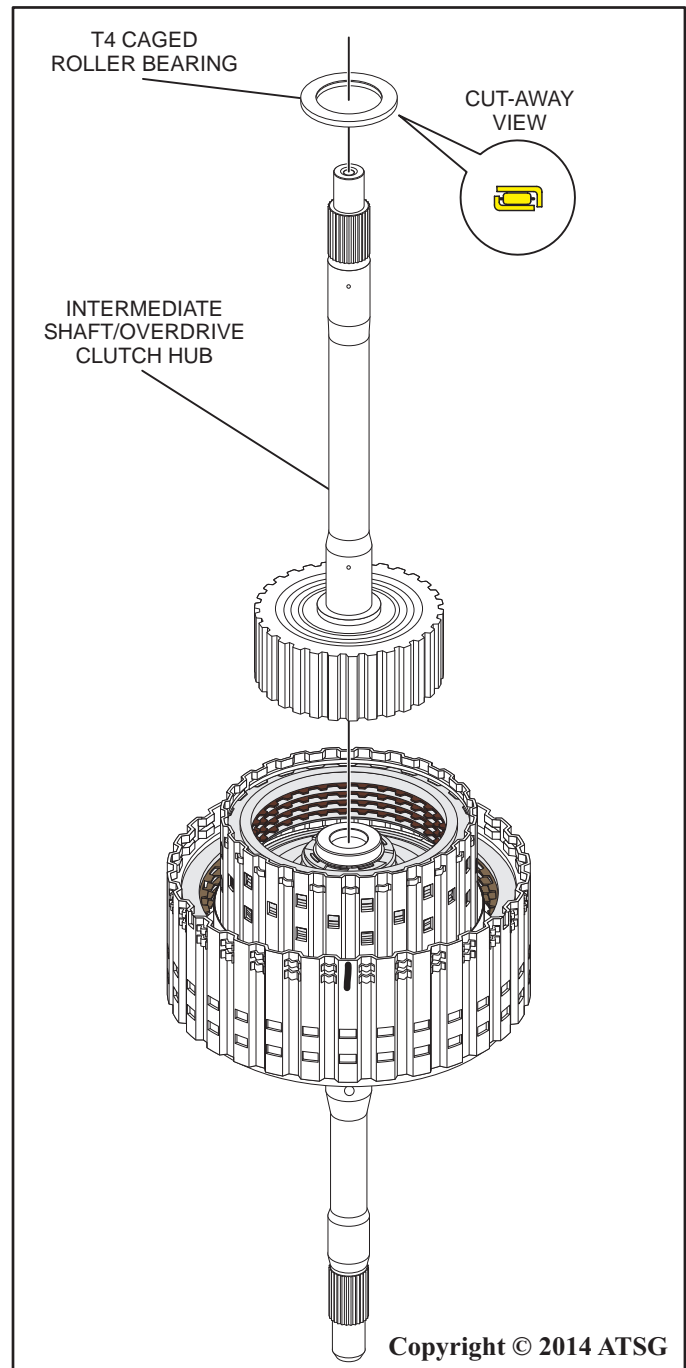

Figure 95
55. Install the intermediate shaft/overdrive clutch hub into the overdrive clutch so that it is indexed into each clutch and fully seated in the overdrive drum as shown in Figure 95
56. Install the T4 caged roller bearing onto the intermediate shaft/overdrive clutch hub and secure with a small amount of Trans-Jel® as shown in Figure 95.